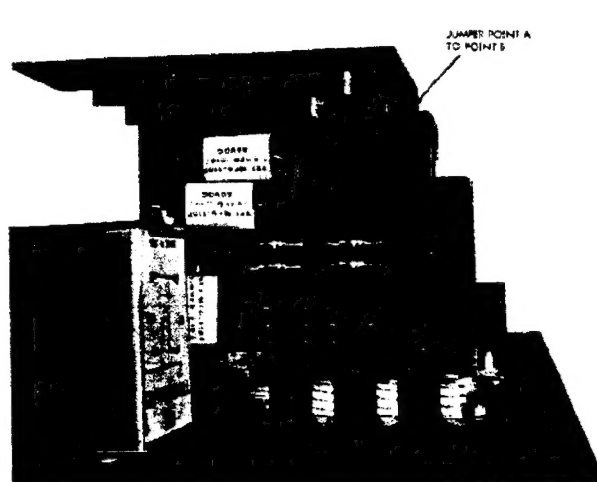

Figure 9. Input Switchboard Assembly
8. Simultaneously press the DUAL BAND DUAL RELEASE and SINGLE BAND 0.4 SEC. RELEASE buttons, thereby locking both down. Jumper point A to point B. (See Figure 9 for location).
22. Remove jumper from point A and B. (See Figure 9).